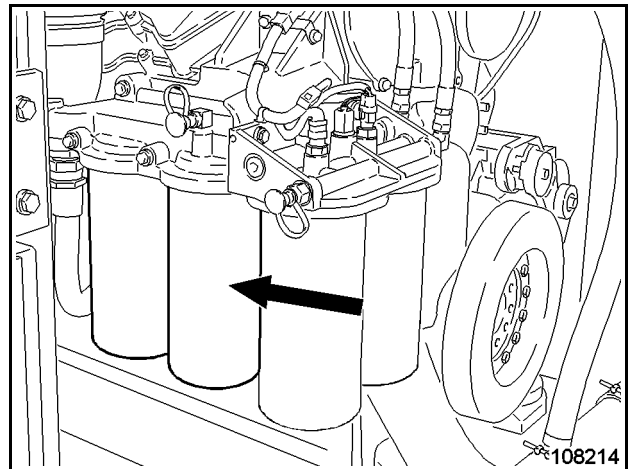

Fig. 3-22:
- Carry out servicing of the oil filters (Fig. 3-22:) in accordance with the engine operating instructions.
- Unscrew the four filters (arrow, (Fig. 3-22:)).